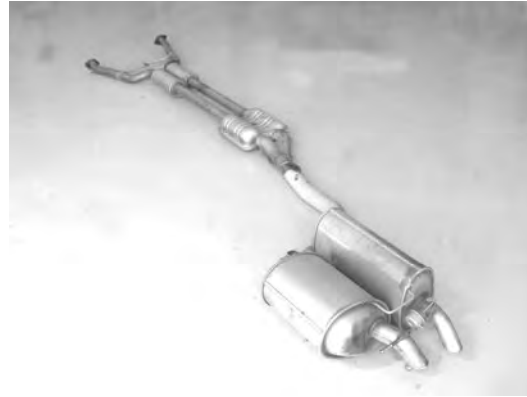

Figure 4
5. Using a muffler stand or an additional person to hold the exhaust system up in position, remove all the hangers from the rubber isolators and remove the entire exhaust system shown in figure 4 from the vehicle.